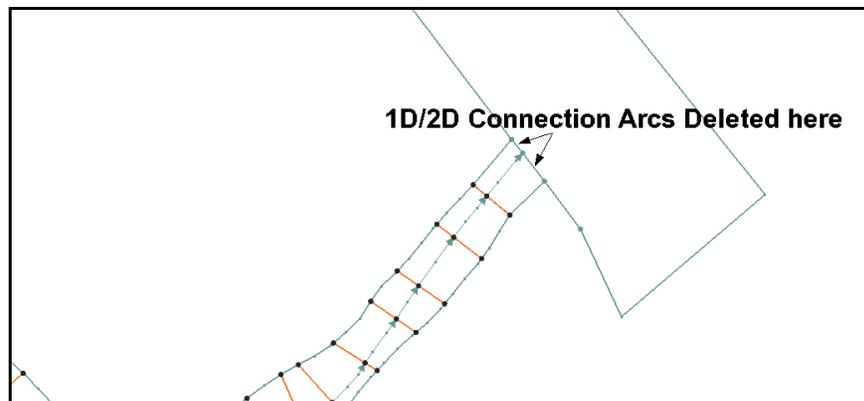

Figure 11 Location of deleted 1D/2D connection arcs on downstream end.
18. Using the **Select Feature Arc**  tool, select the two most downstream 1D/2D connection arcs (Figure 11) and press *Delete*.